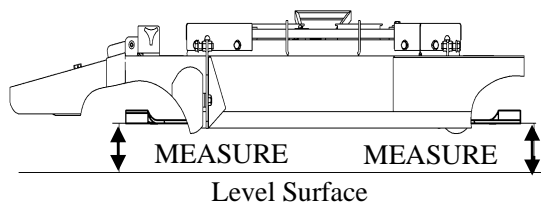

Figure 17
7.2.5 Position left blade in the side-to-side position and measure from the outside blade tip to the level surface (Refer to Fig. 17).